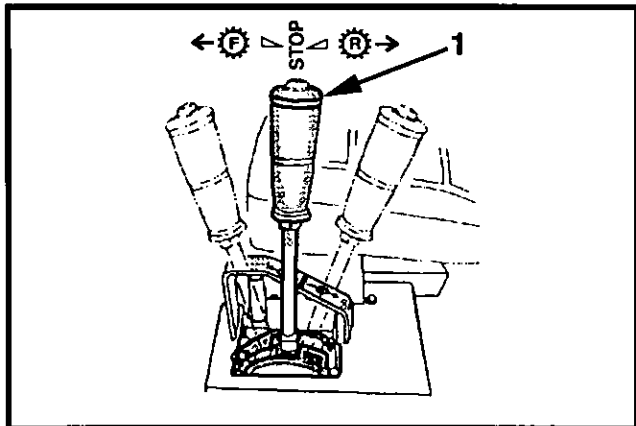

Figure 4-11 Propulsion Control Lever STOP Position
12. Return propulsion control lever to **STOP** position (1, Figure 4-11).
1. Position propulsion control lever (1, Figure 4-11) to the **STOP** position.